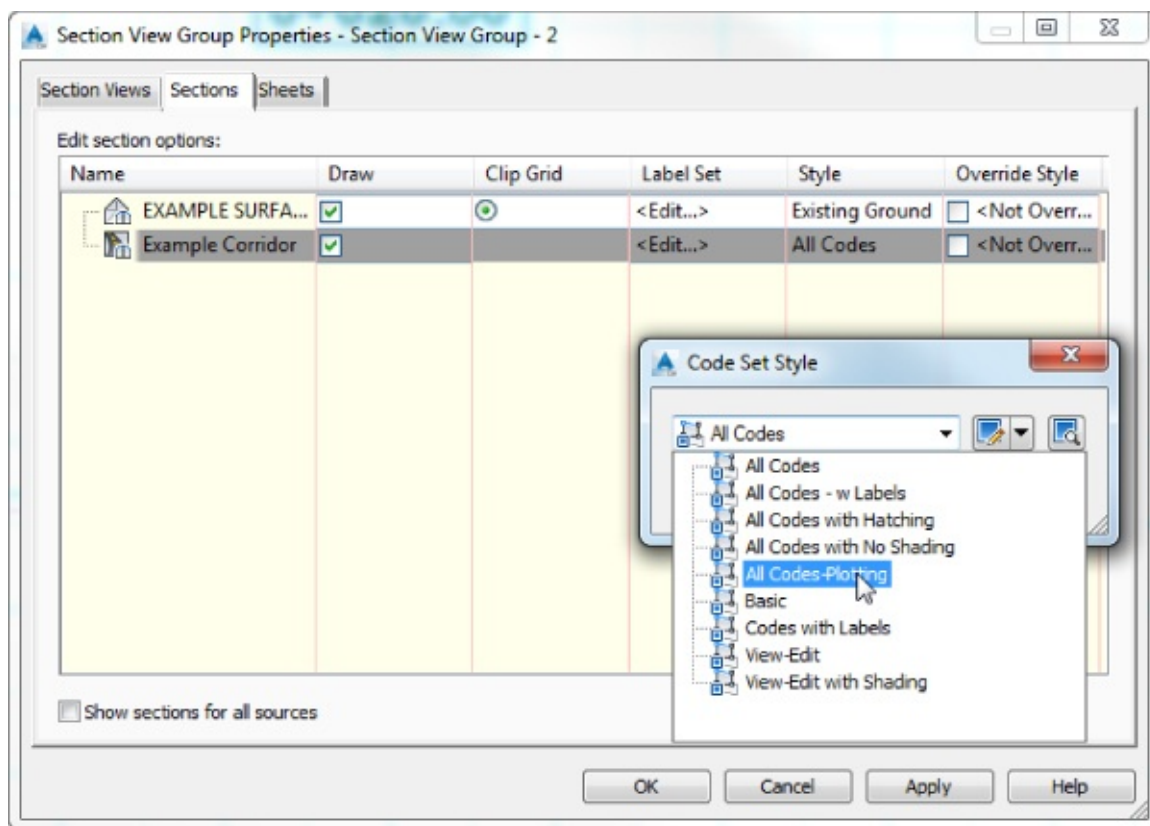

Figure 18.56 Setting the code set style current on the section views
9. On the Sections tab, change the style of Example Corridor to the All Codes-Plotting style you created, as shown in Figure 18.56, and click OK.